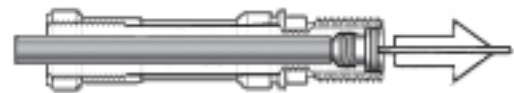

Figure 22 - Removal of crown
12. Continue pressing the valve body until it can be pulled out and removed from the opposite side of the box bottom. Tilt the female threaded end of the valve body down to drop out the poppet (14) that contains the LP seat (15). Remove and discard the valve body O-ring (24).
14. While holding the valve body secure, apply a medium blade screwdriver to the slotted head of the crown (25), and turn the crown counterclockwise until its threads have completely disengaged from the valve body.
15. When the crown has been disengaged from the valve body, carefully insert the pin of the seat extraction tool (PN 109436) through the opposite end of the valve body and through the opening in the center of the crown. Gently press the crown out (see Figure 22). Remove and discard the O-ring (26).